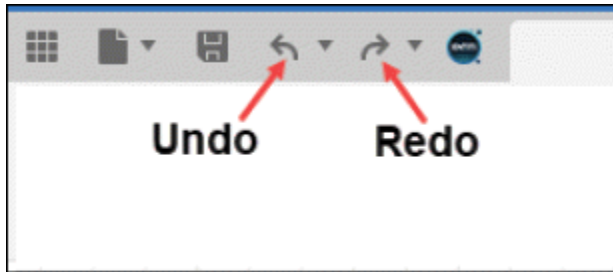

Figure-87. Undo And Redo Button
- Click on **Undo** tool in **Application bar** or press **CTRL+Z** keys; refer to Figure-87.